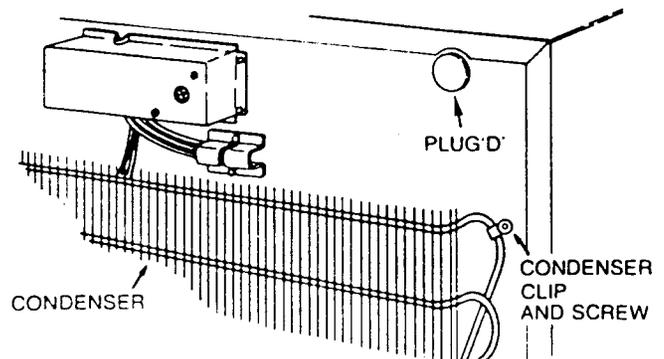

Figure 5 View of cabinet back
3. Working at the cabinet rear, pry out the plug button 'D' and temporarily remove the upper right and middle right condenser screws (see figure 5).